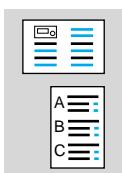

Fig. 55 Rear view of the display housing
3. Remove screws and washers (1), see Fig. 55.